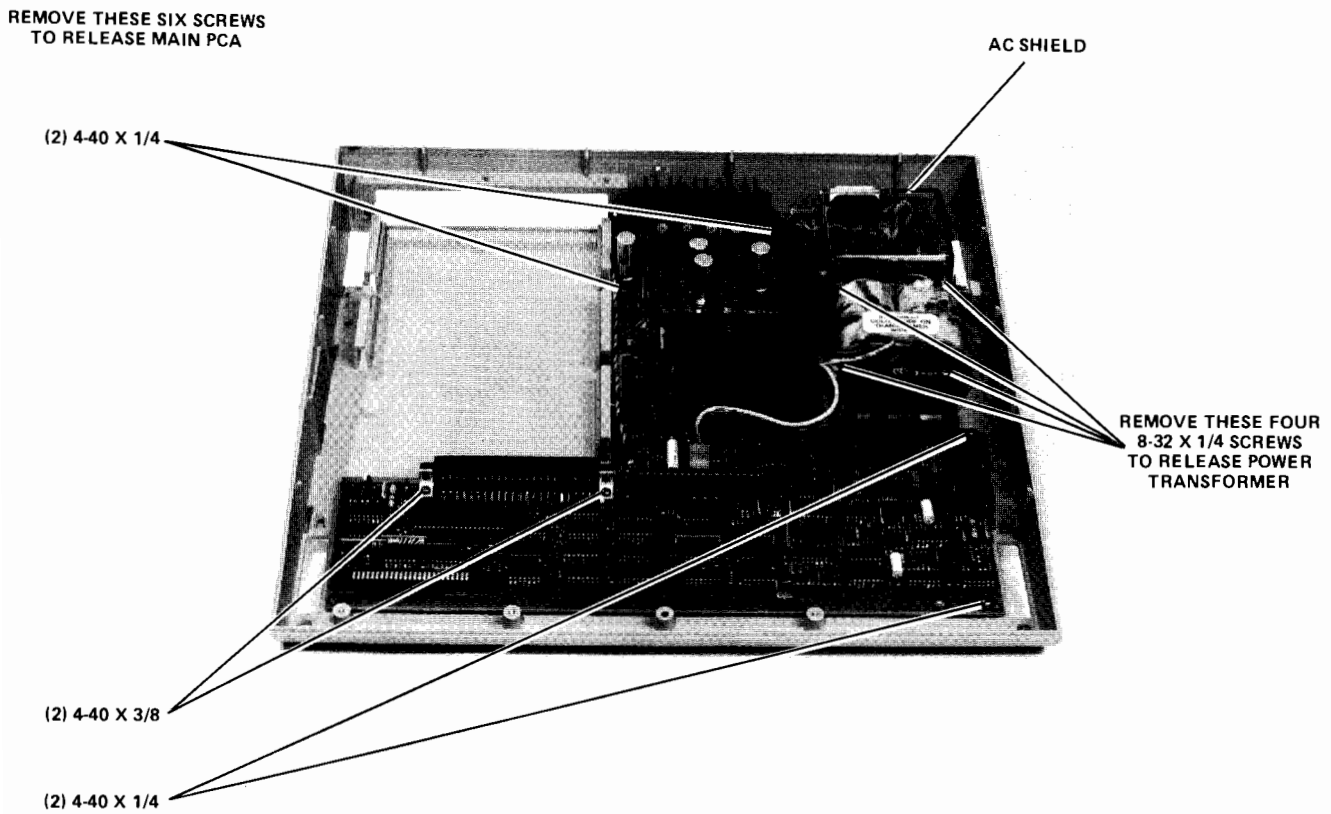

Figure 6-27. Main PCA and Power Transformer Removal
- e. Remove the AC shield. (See Figure 6-27.)
- g. Remove the four 4-40 X 1/4 and the two 4-40 X 3/8 main PCA mounting screws. (See Figure 6-27.)
- c. Remove the AC shield. (See Figure 6-27.)
- e. Remove the four 8-32 X 1-1/4 transformer mounting screws. (See Figure 6-27.)
- c. Remove AC shield. (See Figure 6-27.)